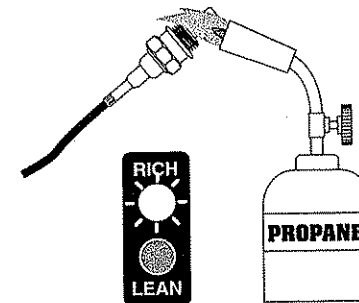

Fig. 2
- After sensor tip is hot, move the flame until the sensor tip is completely surrounded by the flame. This keeps oxygen away from the tip. See Fig. 2.